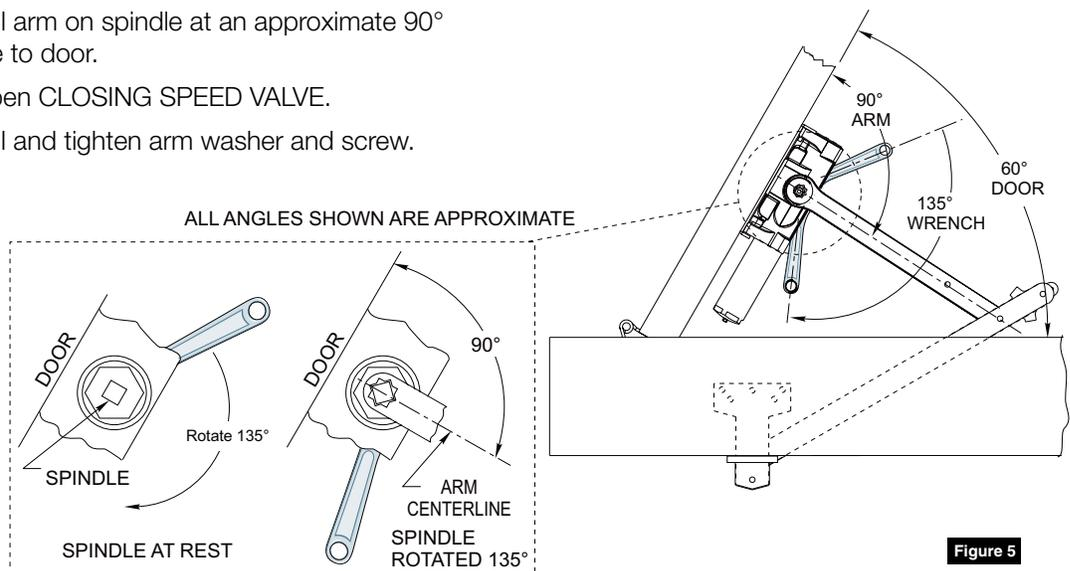

Figure 5
5. Connect Arm To Closer. (Figure 5)